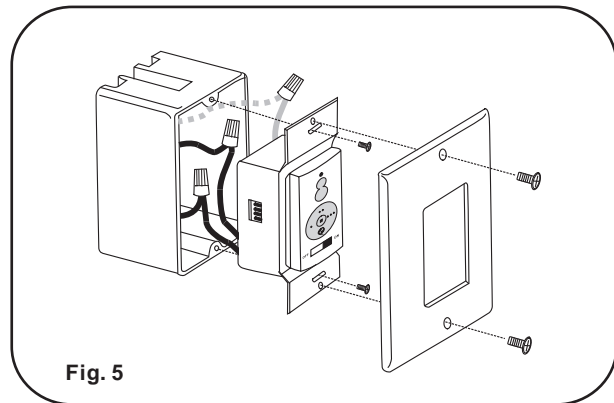

Fig. 5
Step 3. Carefully tuck the wire connections inside the outlet box. Use the screws provided to secure the wall transmitter and wall plate to the outlet box. (Fig. 5)